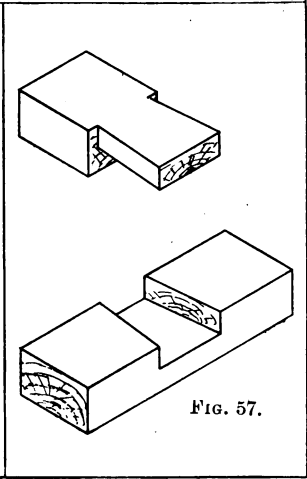

FIG. 57.
**DRAWING.**—Plan, elevations, section, and isometric projection (Fig. 57).